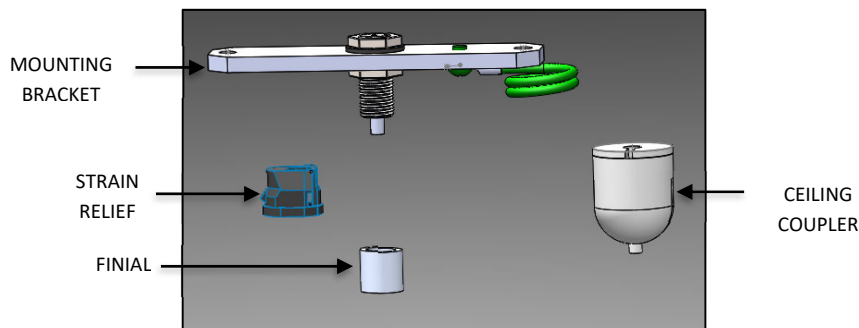
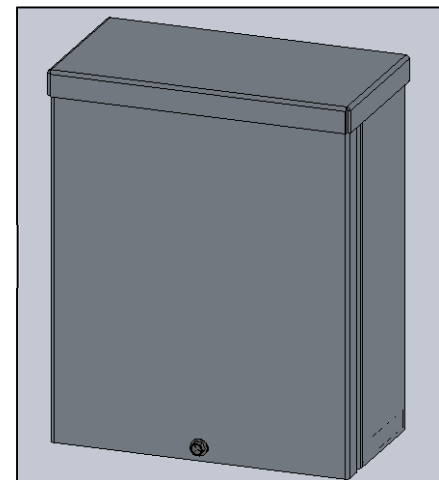

FIG. 4 - MOUNTING KIT
FIG. 5 - REMOTE DRIVER BOX
- b. MOUNTING KIT (as shown in FIG. 4)
- iv. ONE (1) CEILING COUPLER (CC)
4. REMOTE DRIVER BOX WITH DRIVER INSTALLED (as shown in FIG. 5)